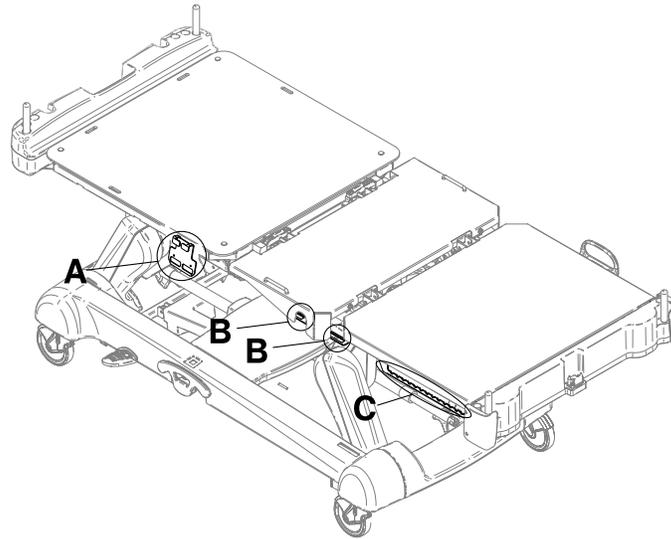

Figure 10: Foley bag hooks
There are two isolated foley bag hooks under the seat section (B) on both sides of the product (Figure 10 on page 22). If you weight the patient with the scale system, the isolated foley bag weight is not included with the patient weight.
There are four foley bag hooks under the fowler section (A) and foot section (C) on both sides of the product (Figure 10 on page 22). If you weigh the patient with the scale system, the foley bag weight is included with the patient weight.